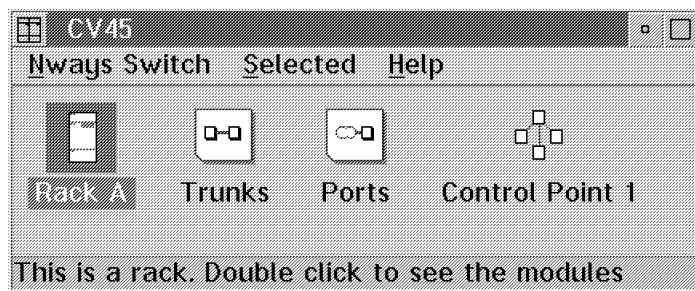

Figure 19. NWays Switch - Rack View.
- ___ 9. Close the *NWays Switch - Rack View* window, (Figure 19 on page 13)